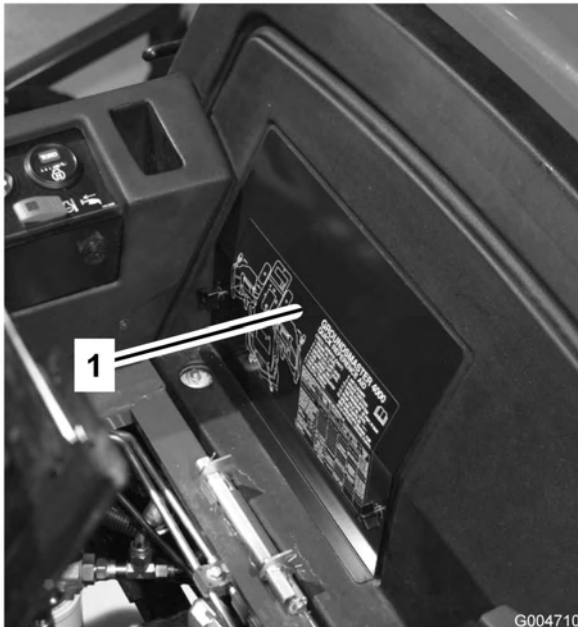

Figure 52
2. Remove the battery cover (Figure 52).